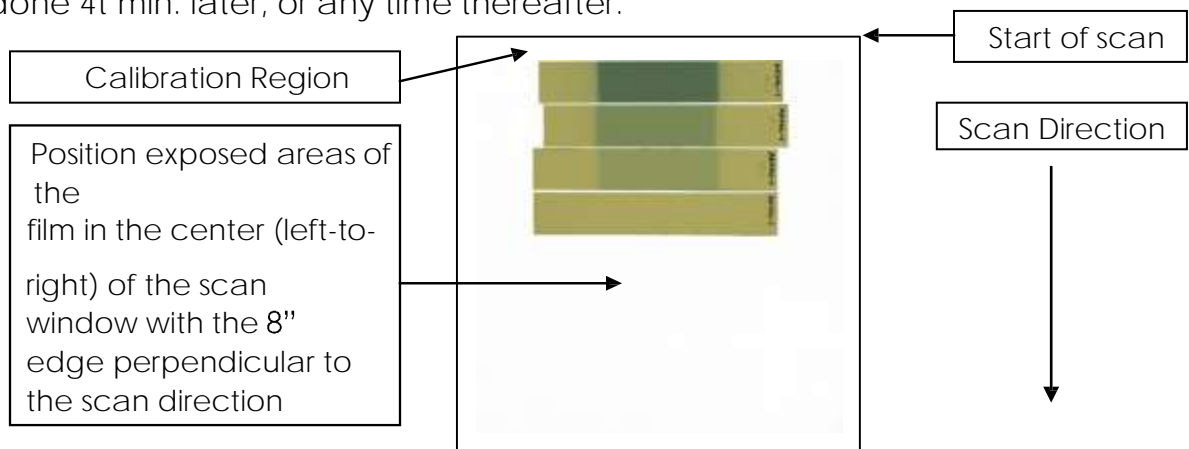

Figure 4
The radiation source is provided as the means for delivering known exposure doses to the calibration and application films. For calibration exposure, it is assumed the user can control the source to deliver the known doses to the film. The protocol requires a minimum of two non-zero exposure doses, plus a dose of zero. A greater number of exposure doses could be used, but this is not necessary. The calibration will be valid for doses between zero and the highest exposure dose for the calibration. The calibration will be valid for other EBT3 film from the same production lot scanned on the same scanner as the calibration films. The protocol requires the calibration films to be scanned together in a single scan with the exposed areas all located along the central axis of the scanner (see Figure 4). The exposures could be made on a single film, or on separate films. In any event, the films should be sized to fit together on the scanner.
- Place the calibration films and an unexposed film from the same lot on the scanner as shown in Figure 4. The time between film exposure and scanning is related to the time window within which the calibration strip and application film were exposed. Your efficiency increases when the user minimizes the time window. For exposures  $t$  min. apart, film scanning can be done  $4t$  min. later, or any time thereafter.